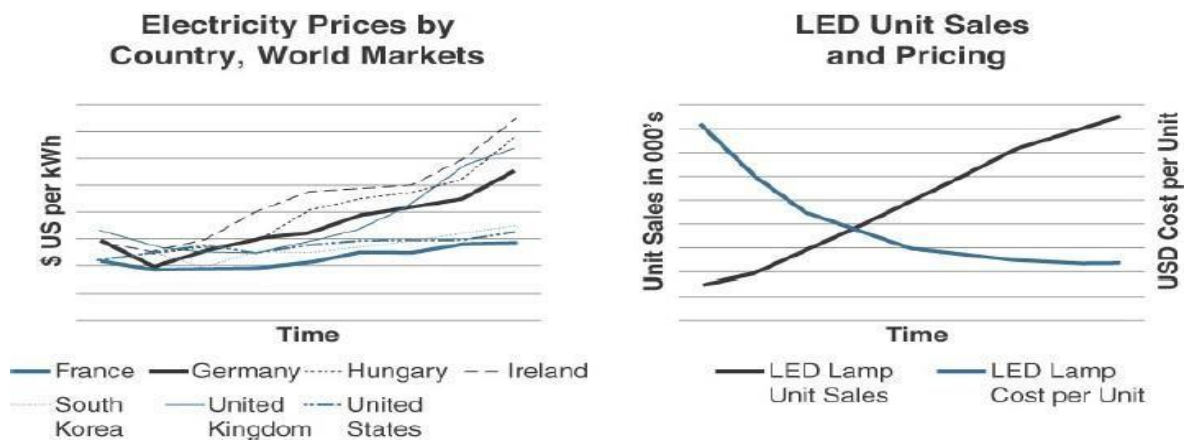

Figure 5.16 Electricity Cost vs. LED Cost and Sales
- Figure 5.16 shows how electricity prices rise, while LED prices decrease and their unit sales rise.